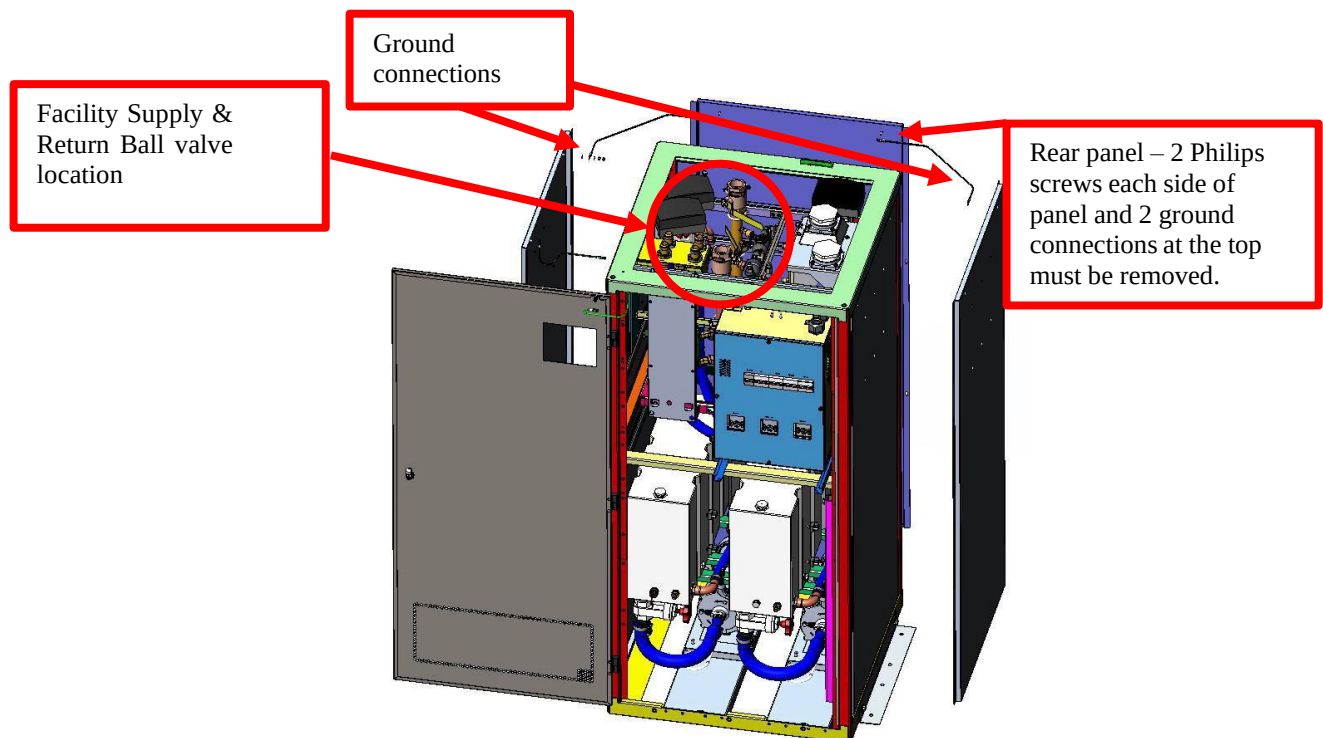

Figure 6
6. Re-install rear panel with retained hardware (4 places). Refer to Figure 6 below
10. Re-install the ground connections on rear panel with retained hardware. Refer to Figure 6 below.